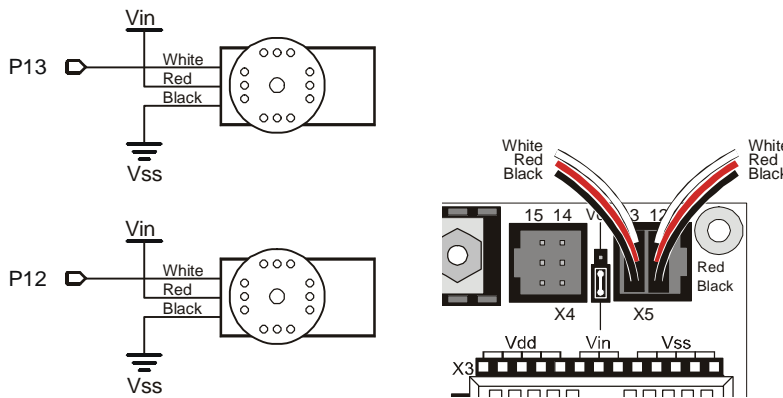

Figure 2-13
All examples and instructions in this book will use the battery pack. Figure 2-13 shows the schematic of the circuit you will build on the Board of Education. The jumper is set to Vin.
- ✓ Connect your servos to your Board of Education as shown in Figure 2-13.